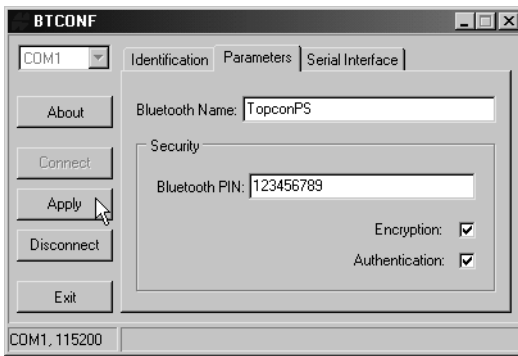

Figure 2-44. BTCONF Security Parameters
8. To set security parameters (Figure 2-44), enter and enable the following, then click **Apply**: